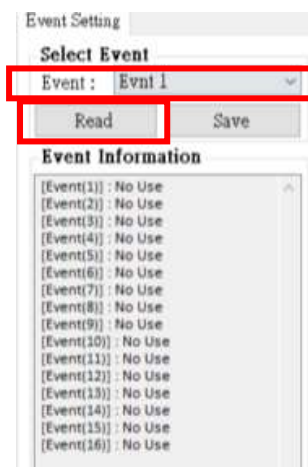

Figure 6.10.21
D. First select Event and press "Read" as shown in Figure 6.10.21